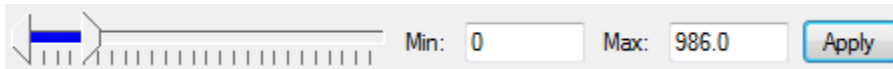

Figure 55: Global threshold slider for the time stack tool
- GlobalThreshold: The Global Threshold normalization is the same as global, except that maximum value for the global color ramp is determined by the user. When this option is selected the threshold slider is made visible in the middle (or bottom) of the tool window (see Figure 55).